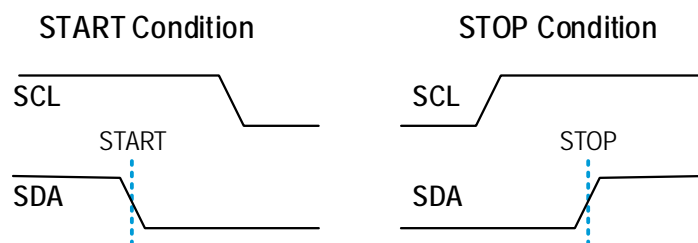

Figure 13. START and STOP Condition Waveform
The sensor transmission is initiated when the master sends a 0 START bit (S). The transmission is terminated when the master sends a 1 STOP bit (P). These bits are only transmitted while the SCL line is HIGH (see Figure 13 for waveforms).